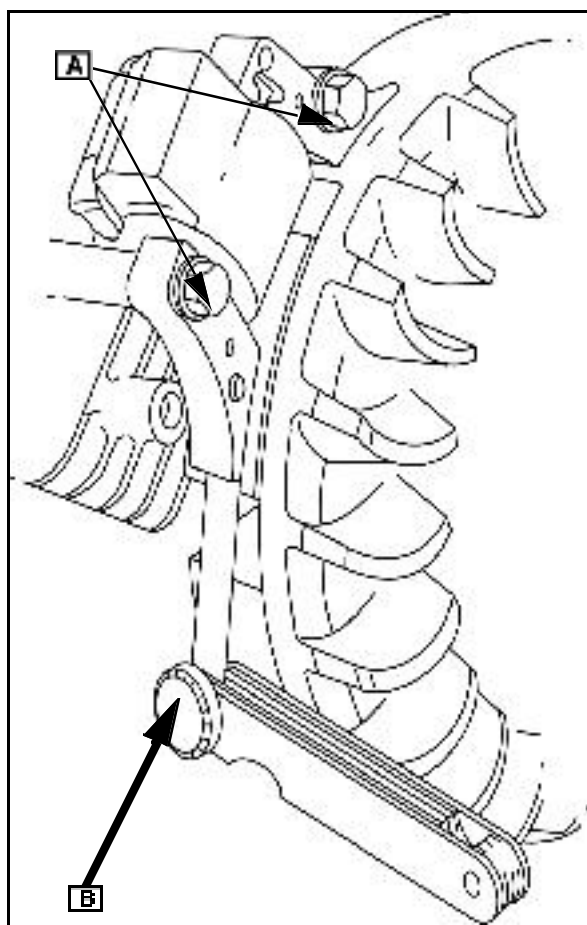

Fig. 11
4. Insert the proper thickness gauge (**B** Fig. 11) between armature and flywheel.
5. Turn flywheel. Loosen screws and allow the magnets to pull armature against thickness gauge (**B** Fig. 11).